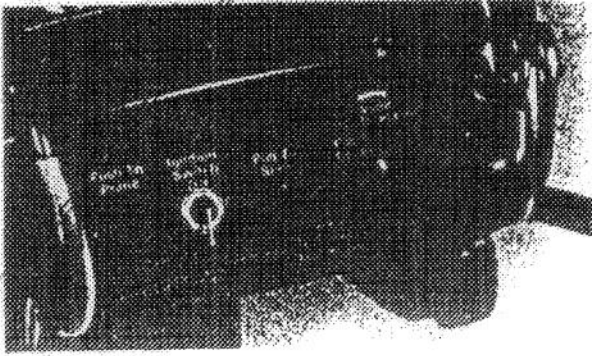

Figure 8
2. Pull choke out (Fig. 8).
3. Put thumb on center of primer so hole is covered — sealed (Fig. 8). Depending upon temperature at which the machine is stored, push the primer one to four times. For temperatures above +20° F (-7° C) use one or two primes; below +20° F (-7° C), use three or four primes; for extremely cold temperatures, below -10° F (-23° C) use five to six primes.
4. Turn ignition key to ON (Fig. 8).
grasp recoil starter handle (Fig. 8) and pull vigorously to start engine. If engine does not start after four pulls, prime engine again as described and pull recoil starter handle four more times. Repeat this procedure until engine starts.
1. Turn ignition key to OFF (Fig. 8).